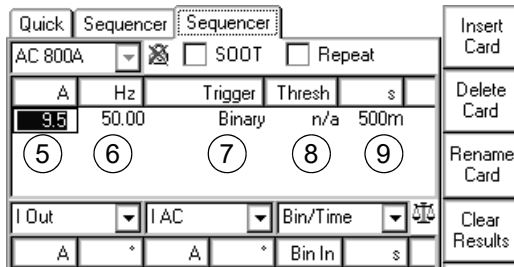

Figure 8-4: Step 2 - Set the state parameters
⑤ Turn the handwheel to set the focus onto the states table's first cell; in Figure 8-4 above it is the output current. Then press the handwheel. The cell turns into an entry field. Now set the output current value of your choice by turning the handwheel, or use the number keys of the CPC 100 soft-touch keyboard. Press **Enter** or the handwheel to acknowledge your setting and move to the next table cell by turning the handwheel.